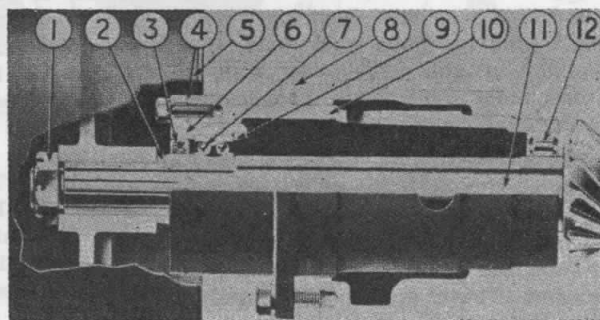

Fig. MH421—Section view of typical belt pulley driven unit as used on models 20, 20K, 22, 22K, 81 and 82.
The pulley shaft and gear (8—Fig. MH421) are driven by a bevel gear on the clutch shaft. The driving bevel gear (26—Fig. MH303) can be removed from the clutch housing after removing the housing. The procedure for removing the clutch housing is given in paragraph 205.
Remove unit from tractor. Remove cotter pin and nut (9—Fig. MH421), and press shaft out of housing. The need and procedure for further disassembly is evident after an examination of the unit. When reassembling the unit, tighten nut (9) until shaft has zero end play, yet turns freely.